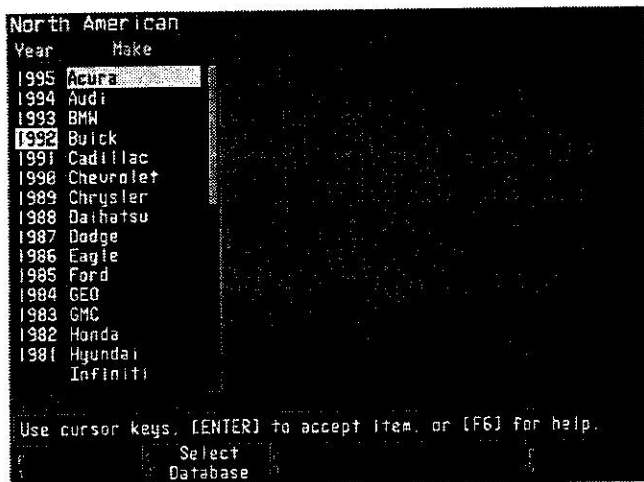

Figure 1-18
3. A list of vehicle manufacturers will now be displayed (see Figure 1-18). Use the Arrow Keys to move through the list. Highlight the correct manufacturer and press [ENTER].